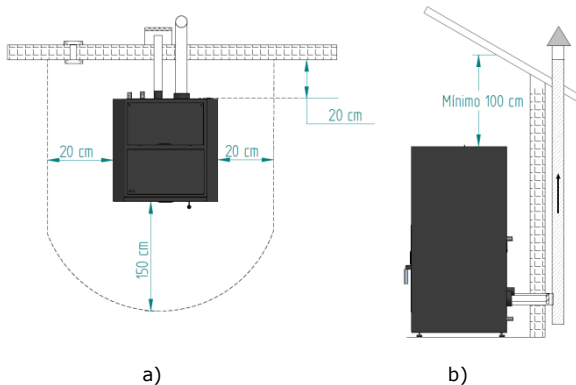

Figure 8 - Minimum distances from all surfaces: a) top view of the equipment installation; b) side view of the equipment installation
The minimum distances of the pellet stove from particularly flammable surfaces are shown in Figure 8.
- As shown in Figure 8, the exhaust ducting should be made so that cleaning and maintenance are ensured by inserting the inspection points.